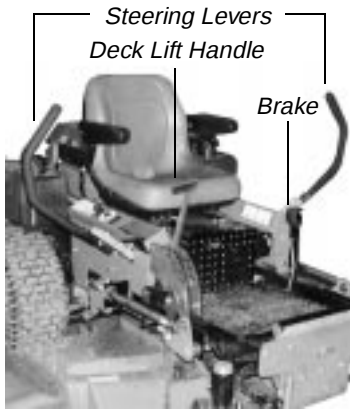

Figure. 3
3. **Left and Right Steering Levers:** (See Figure 3.) These hinged levers open out to the side in the neutral position to permit the operator to be seated or to leave the mower's seat. The operator, when seated, can pull the levers up to the operating position, a comfortable forearm's length away. These levers control all of the movements of the mower. Pushing both levers forward causes the mower to move forward. Pulling both levers back causes the mower to move backward. Pushing one lever ahead of the other lever causes the traction wheel on the side where the lever is ahead to rotate faster than the other traction wheel, making the mower turn toward the side where the lever is behind. When one lever is pushed forward and the other lever pulled back the same amount, one traction wheel will turn in reverse and the mower will turn within its own length.
5. **Parking Brake:** (See Figure 3.) Located on the left side of the traction unit. The handle is an overcenter lever which applies the internal drum-type brake on each drive wheel when the handle is in the up position. The brake must be engaged in order to start the engine.
6. **Deck Lift Handle and Optional Foot Pedal Lift Assist:** (See Figure 3.) Located on the right front corner of the mowing deck. Raise the mowing deck to the transport position, by pulling the lever to the rear and moving it inward into the stop for transport. To lower the mowing deck, pull the deck lift handle and move it outward. This lowers the deck to the cutting position. The foot pedal lift assist (not pictured above) can provide "lift assist" to the hand lever or with "foot effort only". To provide assistance to the lift handle: remove the hairpin clip from the locking pin and remove the pin from the pedal assembly. Fold the pedal down to the horizontal position so the hole in the pedal aligns with the hole in the lever. Reinstall the locking pin and hairpin clip. Pull on the Lift handle and depress the foot pedal to raise the deck. Lifting with "foot effort only" depress the foot pedal (the hand lever will lock into transport position if fully depressed). To release the lift mechanism depress the foot pedal, move the hand lever outward and slowly reduce foot pedal effort to lower the